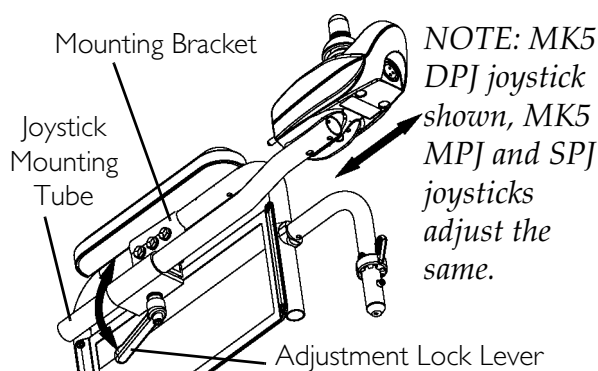

FIGURE 14.1 Preparing MK5 Joystick for Use
NOTE: Refer to FIGURE 14.1.
1. Turn the adjustment lock lever to release the adjustment lock from joystick mounting tube (FIGURE 14.1).